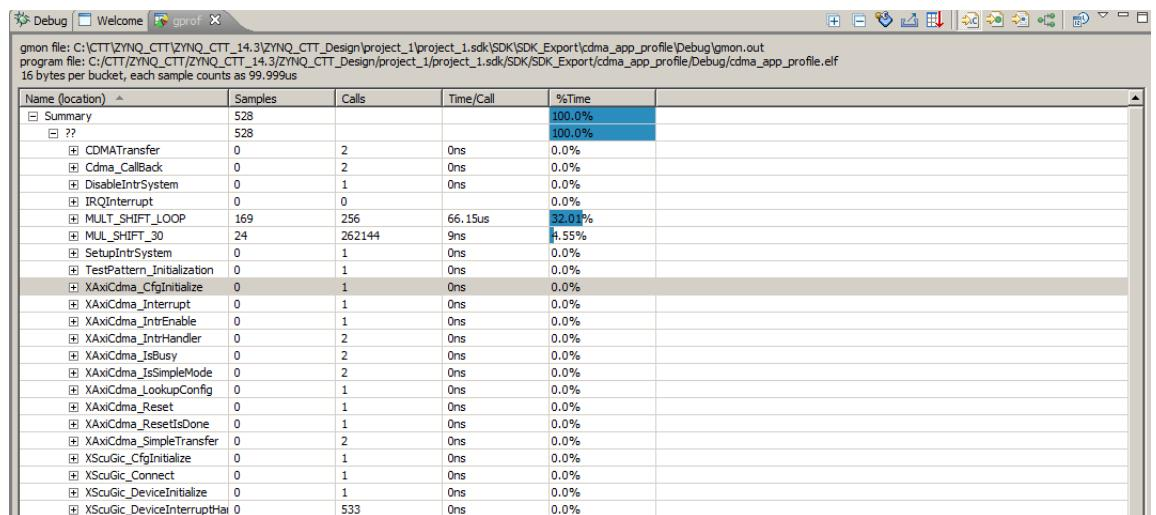

Figure 7-5: Viewing the gmon.out File
11. Click **OK** to open the profiling results (gmon.out) in a gprof tab in the right window area. It will look similar to Figure 7-5.